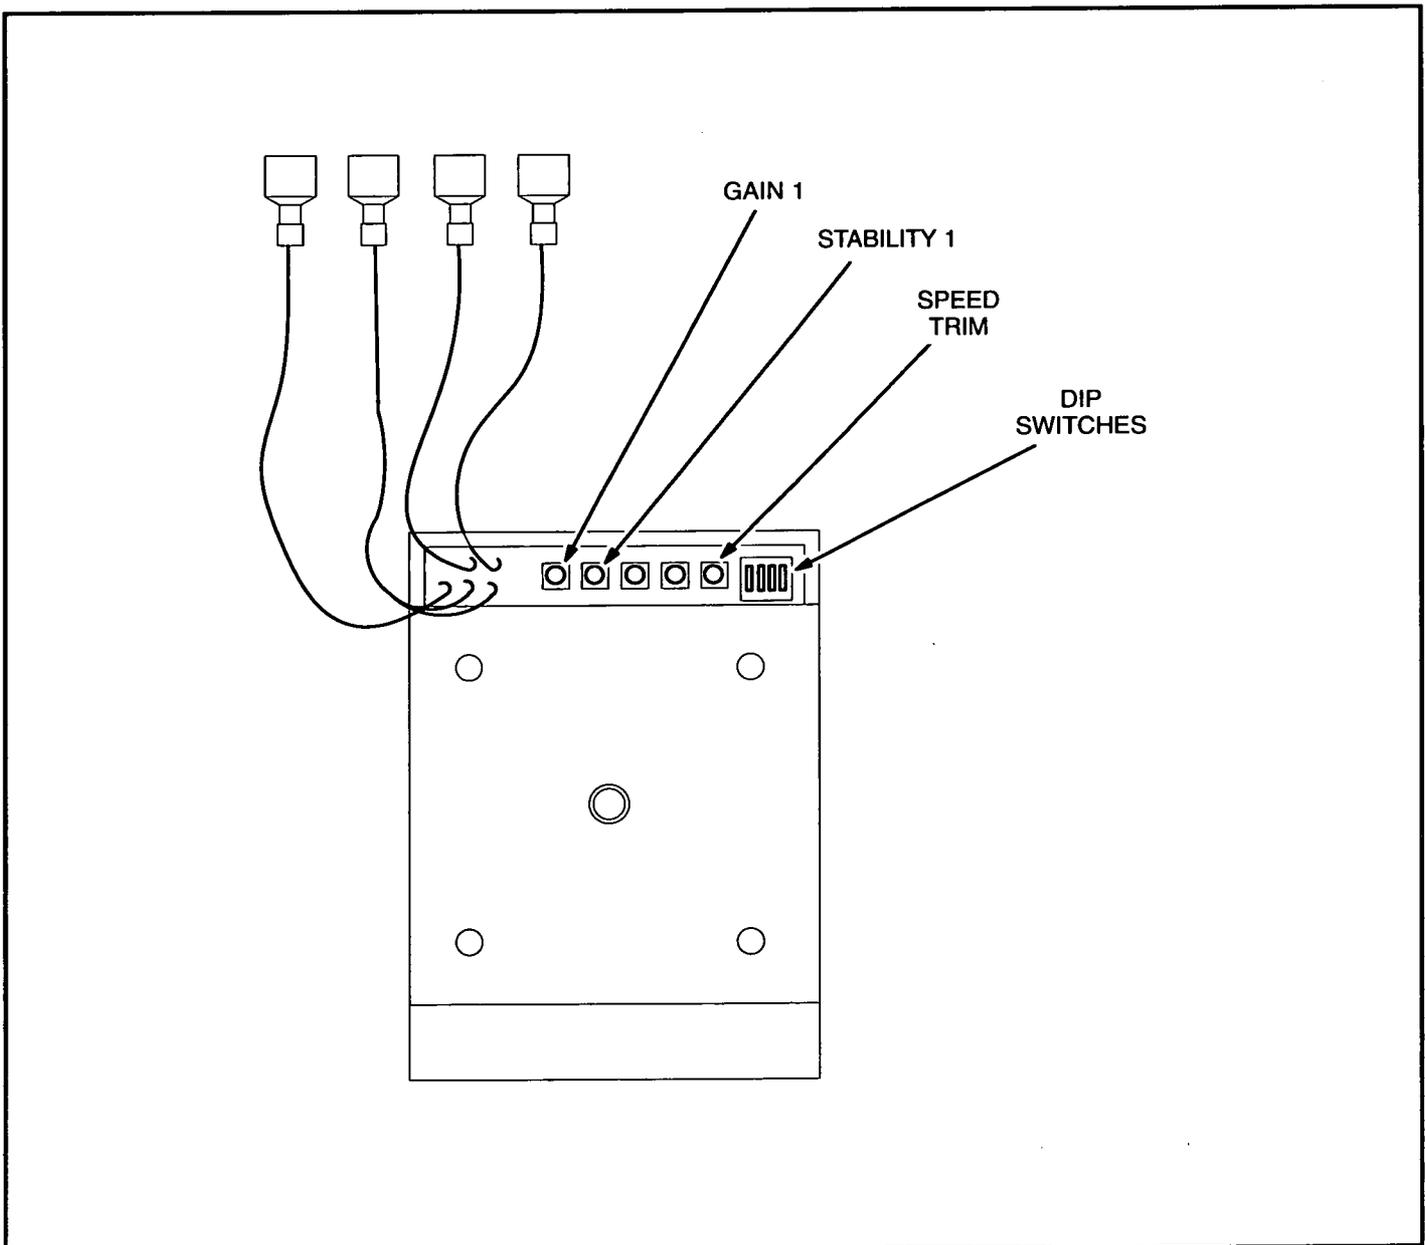

FIGURE 5. GOVERNOR CONTROLLER
1. Check the dip switch settings (Figure 5) to make sure they are set properly, as follows: